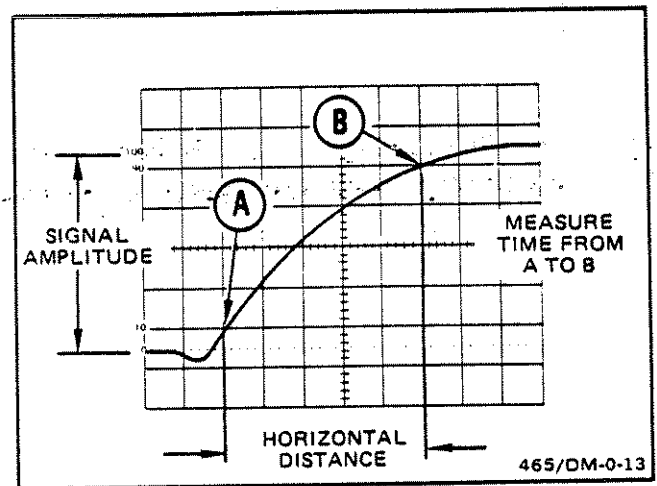

Figure 19. Rise time.
Rise time measurements use the same methods as time duration, except that the measurements are made between the 10% and 90% points on the leading edge of the waveform (see Figure 19). Fall time is measured between the 90% and 10% points on the trailing edge of the waveform.
6. Horizontally position the display so the 10% point on the waveform intersects the second vertical graticule line (see Figure 19).
EXAMPLE: The horizontal distance between the 10% and 90% points is 5 divisions (see Figure 19) and the TIME/DIV switch is set to 1 μ s. No magnification is used.